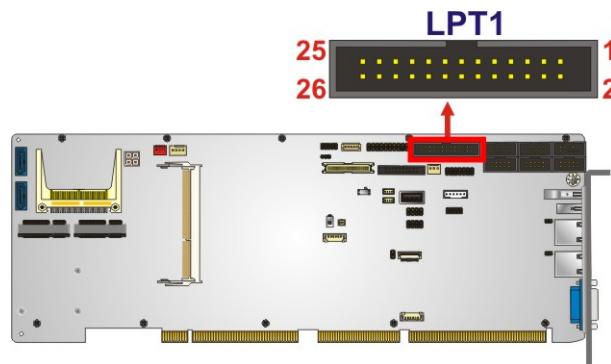

Figure 3-20: Parallel Port Connector Location
- CN Location:** See **Figure 3-20**